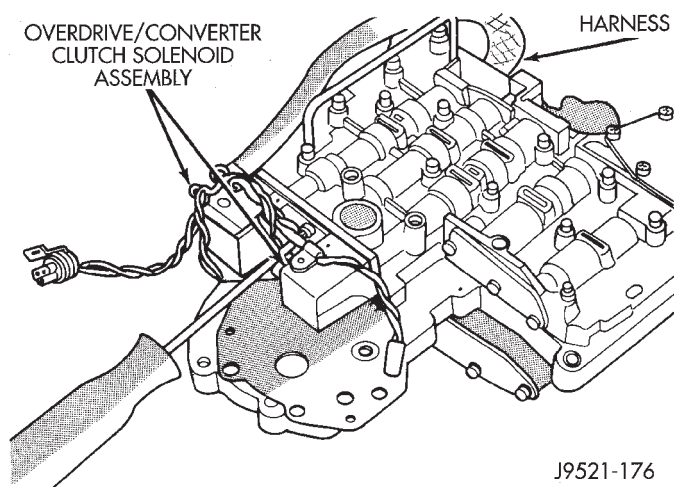

Fig. 46 Solenoid Assembly Screws
(11) Turn valve body over and remove screws that attach overdrive/converter solenoid assembly to valve body (Fig. 46).